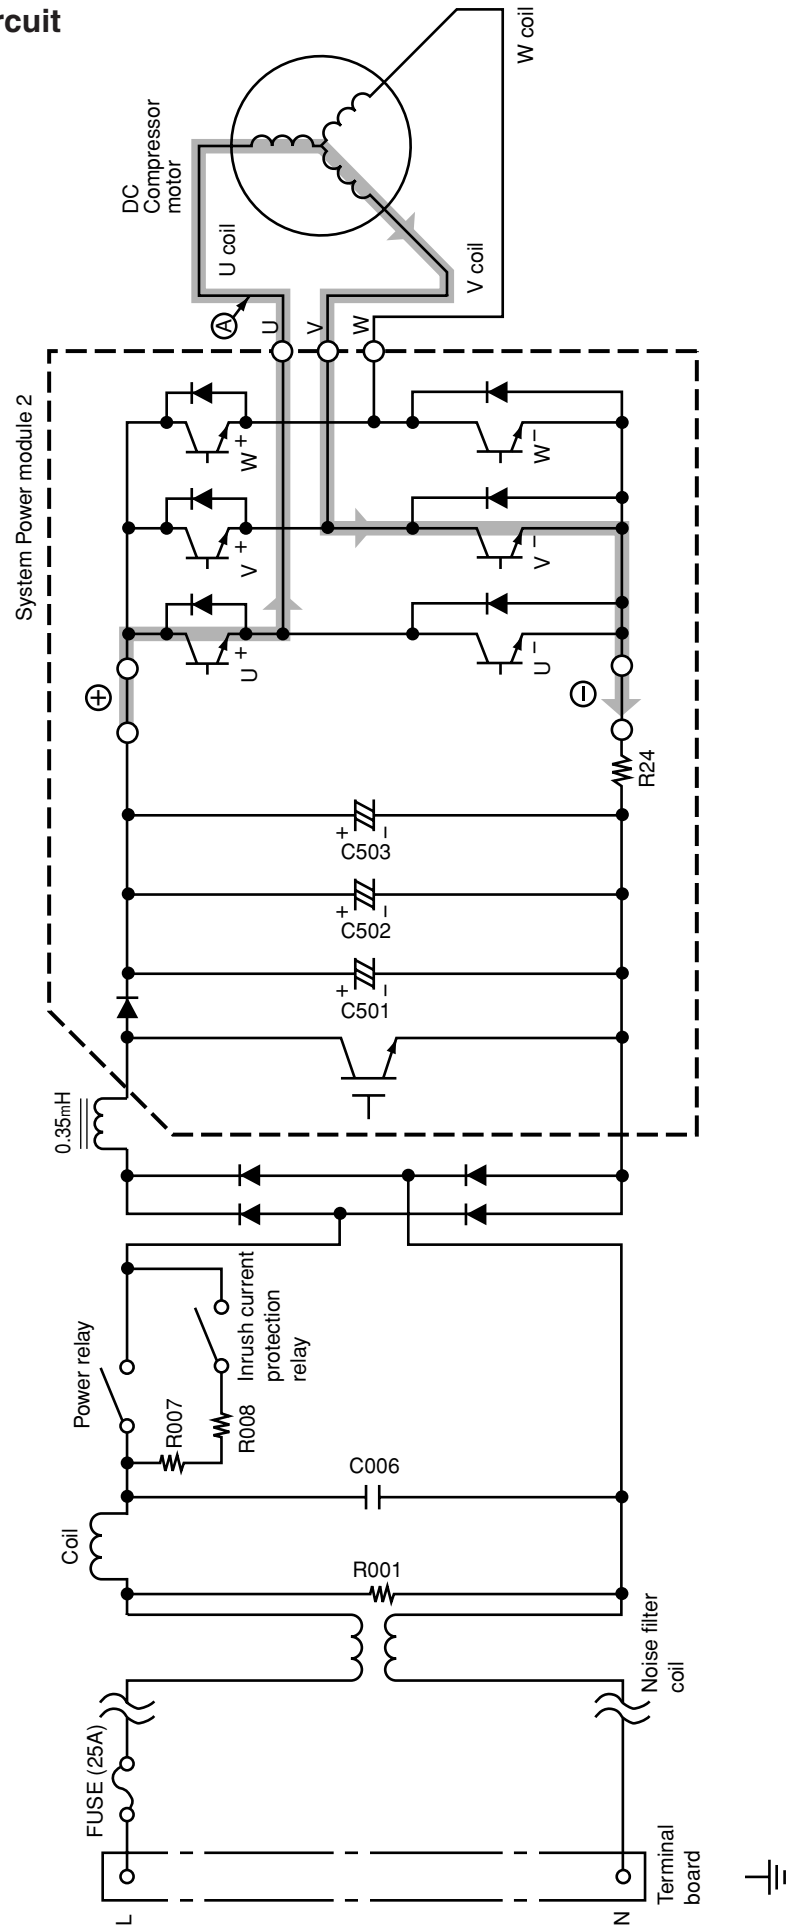
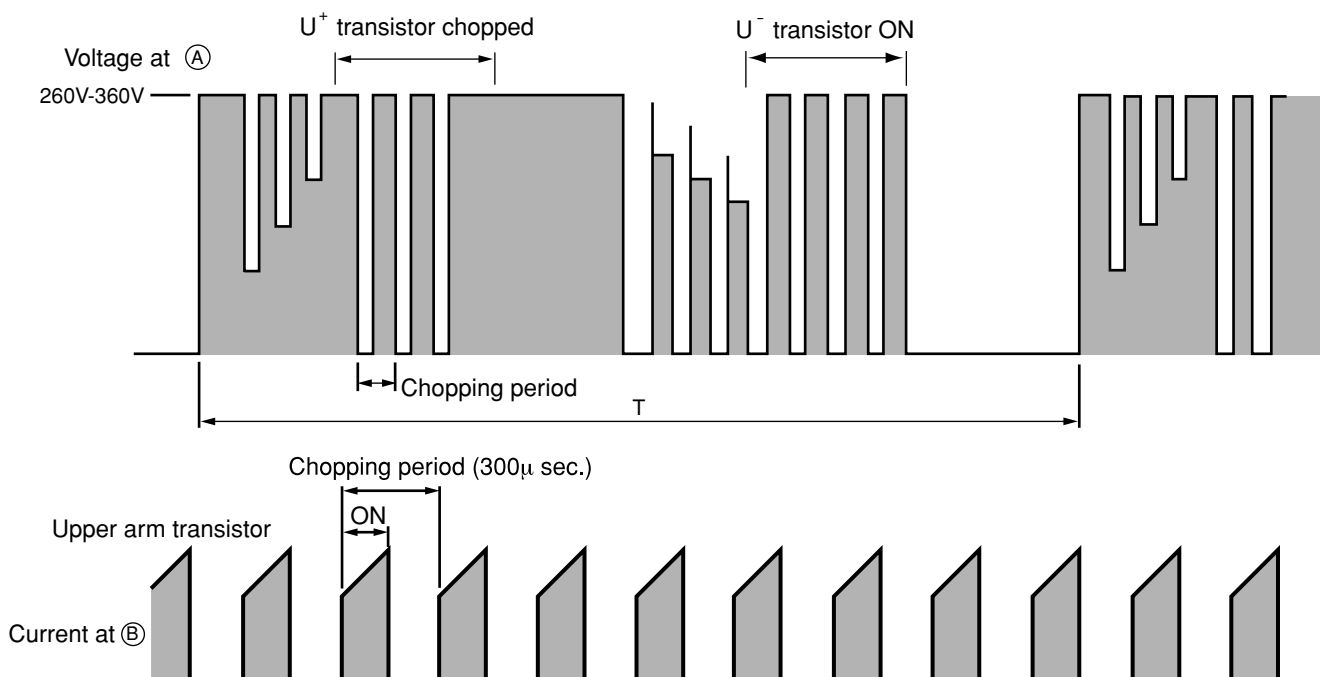

Fig. 3-1 Power module circuit (U⁺ is ON, V⁻ is ON)
Fig. 3-3 Voltage waveform at each point
- Fig. 3-1 shows the system power module and its peripheral circuit. The three transistors on the positive ⊕ side, the upper arm, and the three transistors on the negative ⊖ side, the lower arm.
- Fig. 3-3 shows voltage waveform at each point shown in Figs. 3-1 and 3-4. First half of upper arm is chopper, second half is ON, and first half of lower arm is chopper, second half is ON.
- When power is supplied $U^+ \rightarrow U^-$, because of that U^+ is chopped, current flows as shown below; (B)
- (1) When U^+ transistor is ON: U^+ transistor $\rightarrow$ U coil $\rightarrow$ V coil $\rightarrow$ V^- transistor $\rightarrow$ DC current detection resistor $\rightarrow$ Point (B) (Fig. 3-1)
- Since current flows at point ⑥ only when U^+ transistor is ON, the current waveform at point ⑥ becomes intermittent waveform as shown in Fig. 3-3. Since current at point ⑥ is approximately proportional to the input current of the air conditioner, input current is controlled by using DC current (I_d) detection resistor.